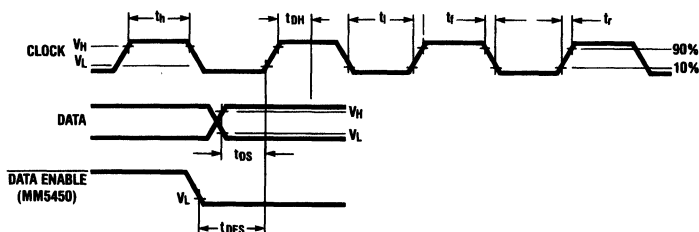

FIGURE 3
*Figure 3* shows the timing relationships between data, clock and DATA ENABLE. A max clock frequency of 0.5 MHz is assumed.